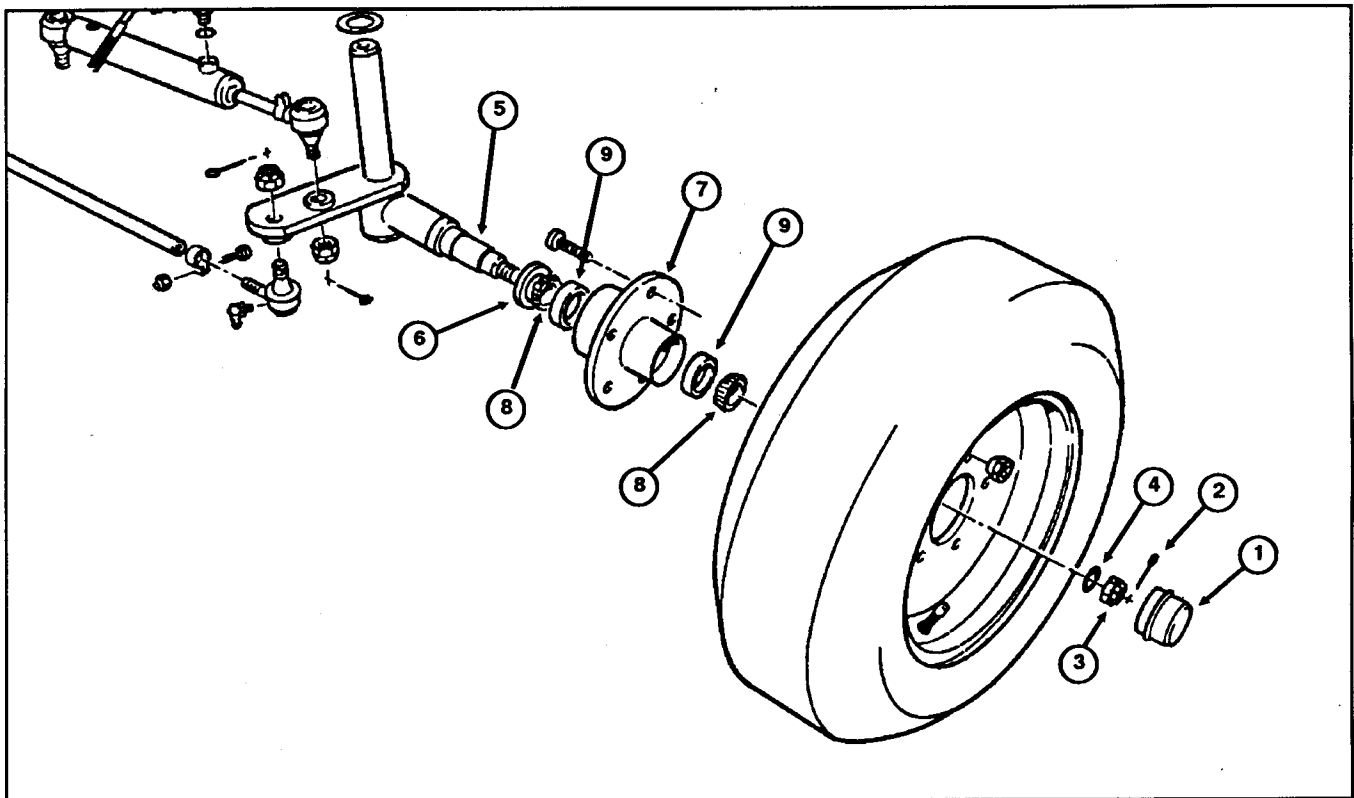

Figure 17
2. Remove dust cap from end of wheel spindle (Fig. 17).